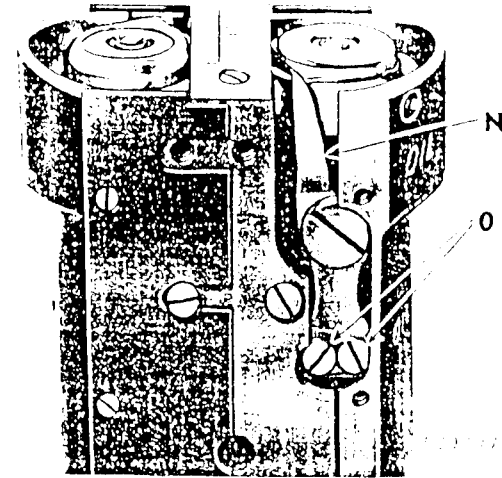

Fig. 19. Adjustment of Mechanical Opener
Remove the cover plate at the front of the inside hook post. The bobbin case lever (N, Fig. 19) at the left of the inside sewing hook, actuated by the eccentric on the hook shaft, strikes the pro-
The bobbin case lever (N) may be adjusted by loosening the two bobbin case lever screws (O, Fig. 19) and moving the bobbin case lever forward or backward.
If the bobbin case lever is set to open the bobbin case too far, it will cause a bind between the bobbin case bearing and the hook bearing when the bobbin case is opened all the way, and care must be taken to see that this does not occur. After the correct adjustment is made, firmly tighten the two screws (O, Fig. 19).